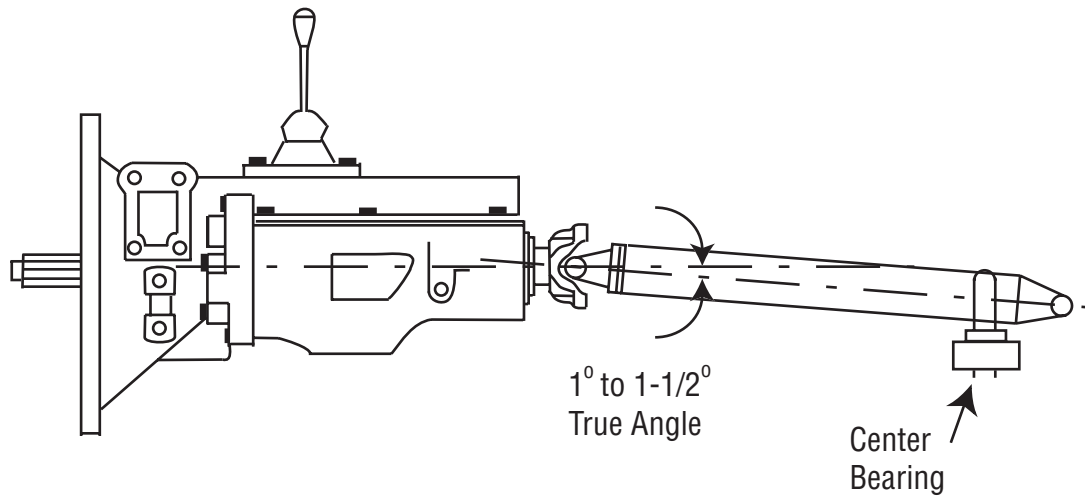

Figure 8
- For a 2-shaft application, set up the first coupling shaft (sometimes called a jackshaft) so that the universal joint operating angle that occurs at the transmission end is 1 to 1-1/2 degrees. (See Fig. 8)